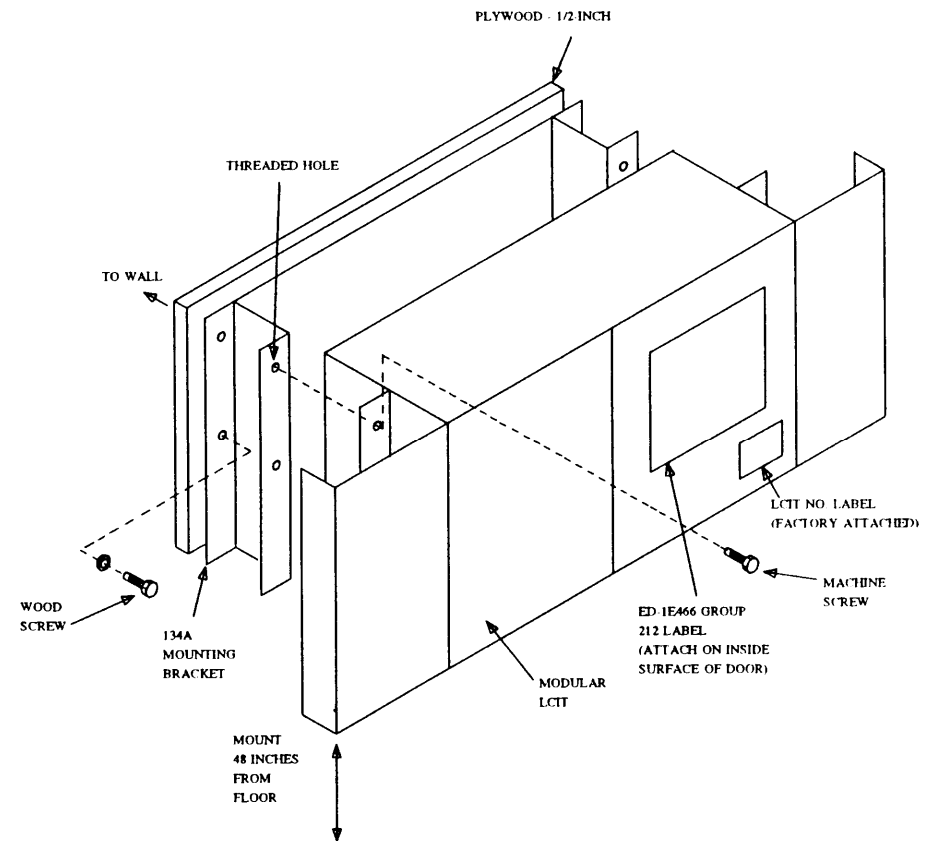

Figure 12-8. LCIT Installation on Wall
Install the LCIT (figure 12-8) as follows:
5. Attach ED-1E466 Group 212 label, and write the LCIT number on the LCIT Number label (factory attached to the LCIT) in the locations shown in figure 12-8.